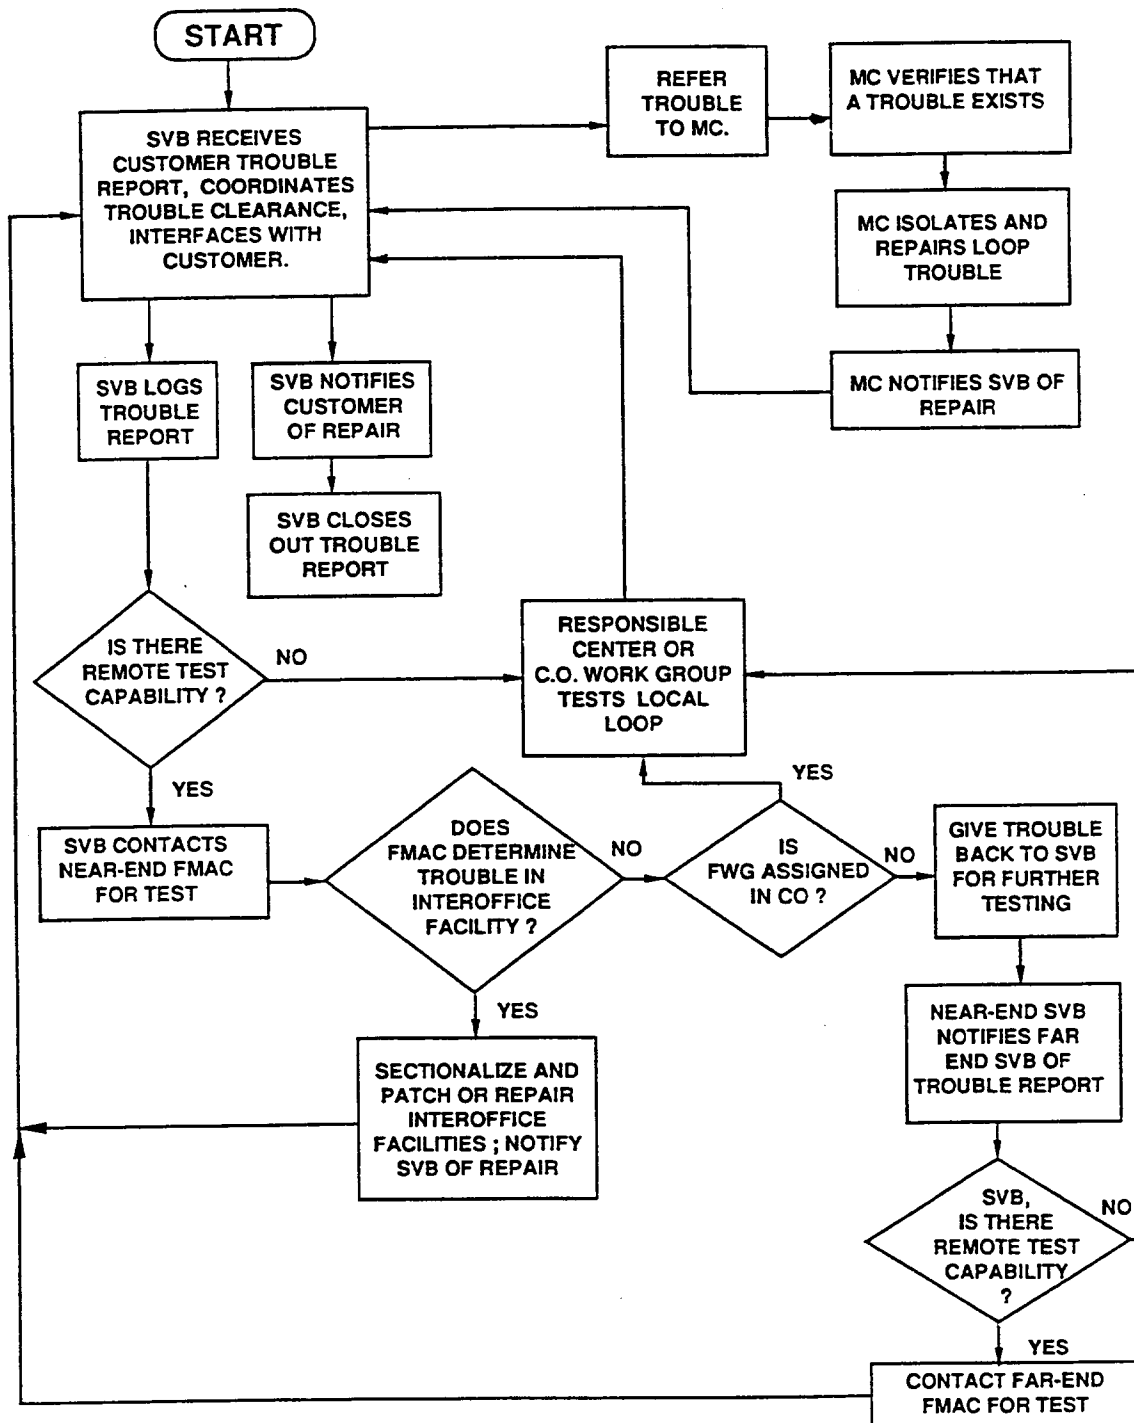

Fig. 3 - Flowchart of Trouble-Isolation Routine
**2.02** To determine whether the circuit is in trouble or which part of the DS3 circuit has failed, the SVB will request test assistance as shown in Fig. 3. First it should be determined if there are on-line STC testing capabilities. If there are, that office or center should be contacted for sectionalization testing. The outcome of this testing determines what further sectionalization is required. The office or center should report the results of the test and/or trouble clearance to the SVB receiving the trouble.
**3.07** The overall trouble clearance routine for DS3 digital service is given in flow-chart form in Fig. 3.
- (1) Monitor for pulses (Chart 1) at the control DSX-3 cross-connect panel. If the requirements of the monitoring tests are not met, use the trouble isolation flowchart (Figure 3) to locate the trouble.
- (2) Perform a 40-minute error test from the control DSX-3 cross-connect panel to the near-end station. At the same time, the DSX-3 cross-connect panel at the far-end should monitor the output of the interoffice facility, if used, to determine its performance.
- (3) Repeat the above procedures for the far end of the facility with the control DSX-3 cross-connect panel monitoring the output of the interoffice facility. If the errored-second count is exceeded at the far end, repeat the test.